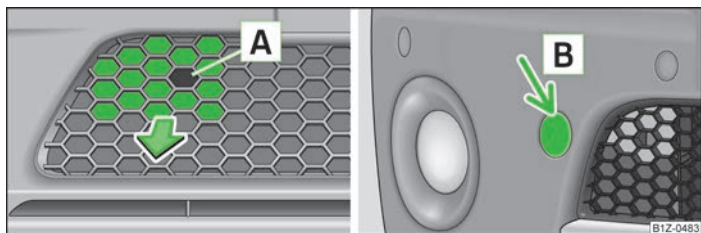

Fig. 156 Front bumper Octavia RS: Protective grille/Octavia Scout: Cap
- Insert a finger into the opening **A** » Fig. 156 of the grille.
- Press on the top area of the cap **B** » Fig. 156, remove it.